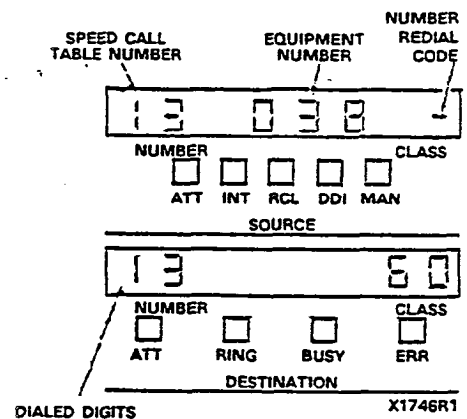

Figure 243-2
2. After digit entries are made (e.g., Step (4)), the bell may ring and an error code may appear in the DESTINATION display (i.e., the relevant function key and its digit entries). In order to correct the previous entry, press CANCEL and re-enter the key sequence. Figure 243-2 shows a typical error code entry.